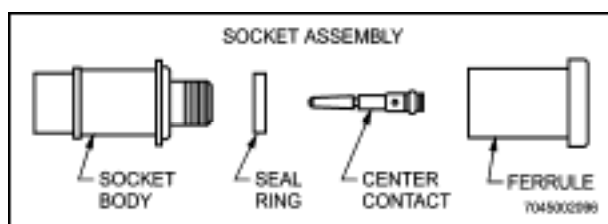

Figure 10-58 Contact Assembly Using Seal Ring
- (1) Install seal ring (if used) over braid support section of contact against shoulder on contact. (See Figure 10-58)
- (1) Install seal ring (if used) over braid support section of contact. (See Figure 10-58)